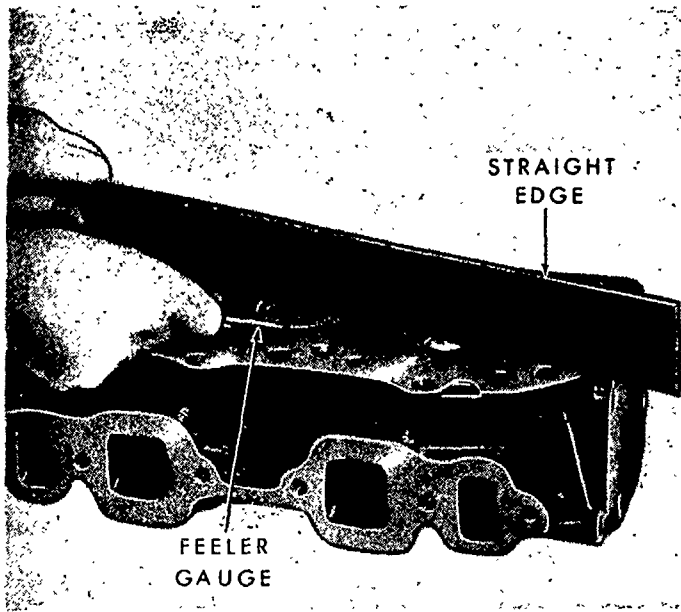

Figure 13
2. With a straight edge and feeler gauge, check the flatness of the cylinder head lengthwise, diagonally and crosswise as shown in Figure 13. Specifications for flatness are 0.006 in. (0.15mm.) maximum overall or 0.003 in. (0.076 mm.) in any six inches (152.40 mm.).